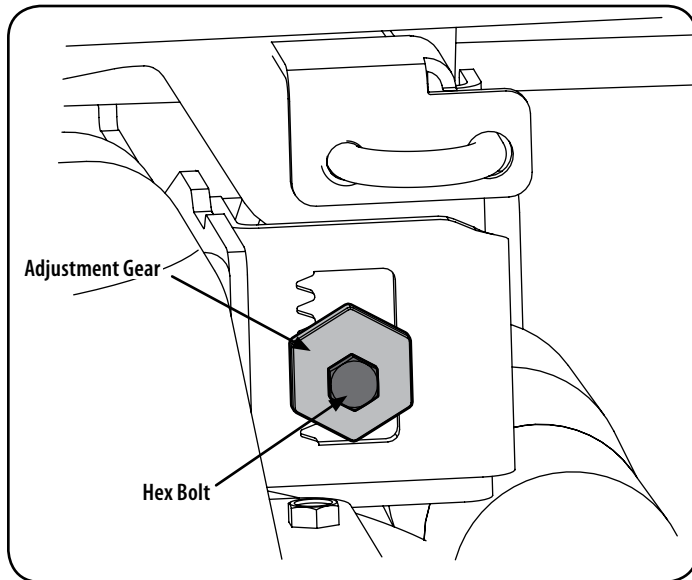

Figure 29
- Loosen, but do NOT remove, the hex bolt on the rear left deck hanger link. See Figure 29.
- Using a wrench, raise or lower the left side of the deck by turning the adjustment gear. See Figure 29.